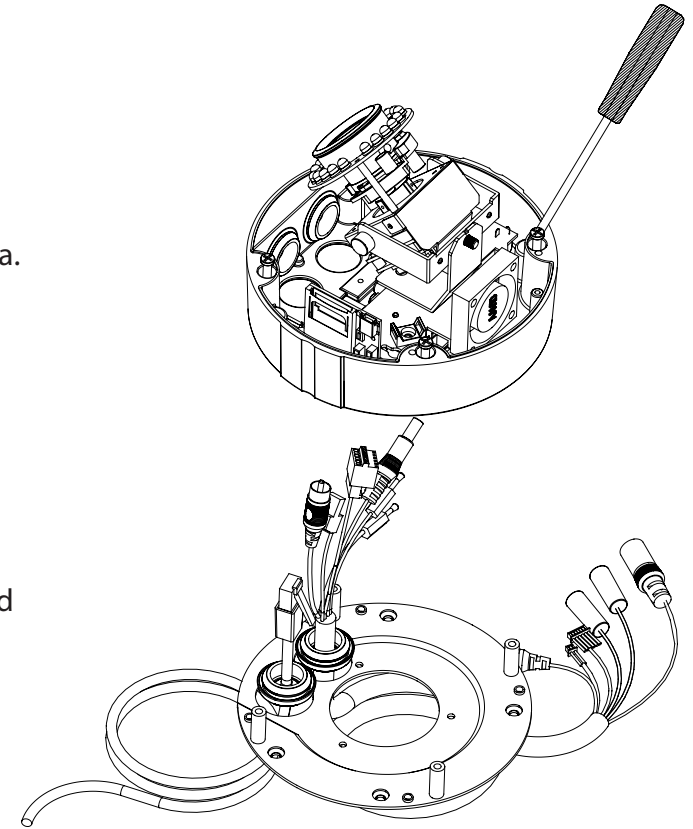

Figure 2.1
2. Thread the cables through the waterproof plugs at the bottom of the base of the camera. Attach the cables to the corresponding cable connectors. (Figure 2.1)